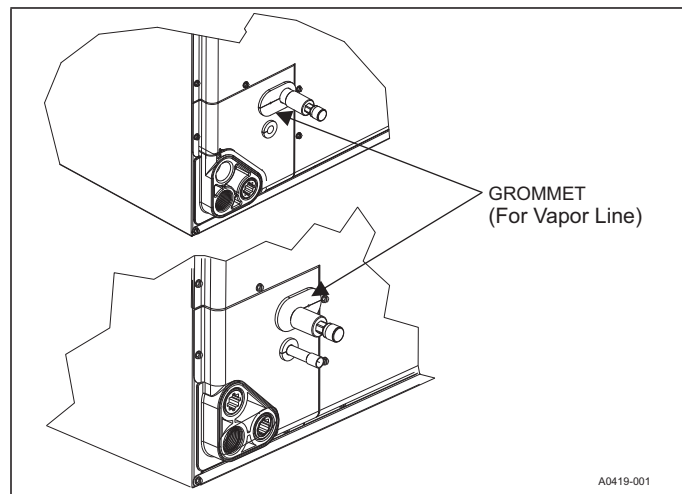

FIGURE 16: Vapor Line Grommet
- Remove grommets where tubes exit the cabinet to prevent burning them during brazing. In some units, the vapor line grommet may be shipped as a loose part with the unit. Refer to Figure 16.
- Re-attach the grommets to the lines carefully to prevent air leakage. In some units, the vapor line grommet may be shipped as a loose part with the unit. Refer to Figure 16.